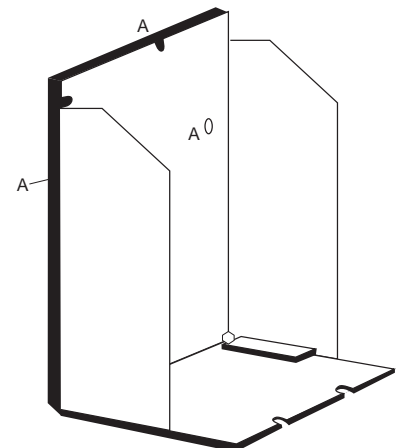

Figure 10c:
- **An optional No. 7825MB Floor Mount Bracket is available** and is shown in Figure 10c. To mount the No. 7825MB Floor Mount: